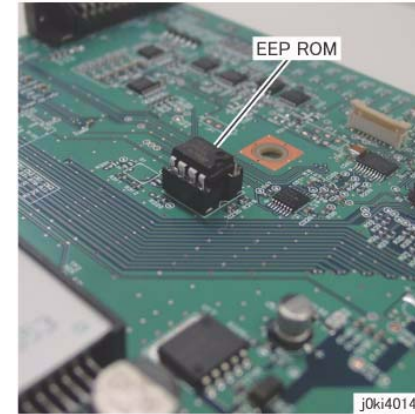

Figure 5 Remove and Replace the EEP ROM from the old PWB
- 2. When the PWB is replaced, remove the EEP ROM from the old PWB and install it onto the new one. (Figure 5)